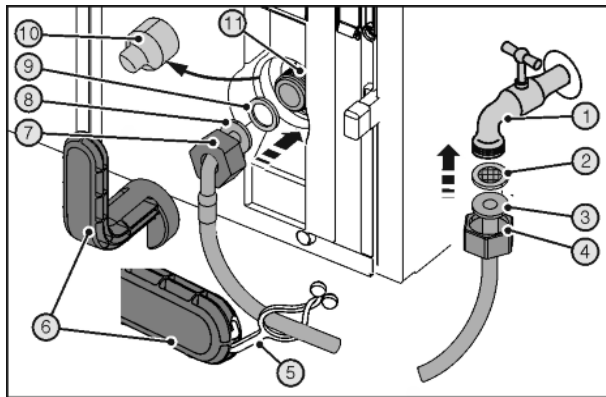

Fig. 44
Cuts from a broken auxiliary tool Fig. 44 (6).
- ▶ Only use an auxiliary tool Fig. 44 (6) at room temperature.
- ▶ Slide the nut Fig. 44 (4) over the straight end of the hose Fig. 44 (3) up to the end and secure.
- ▶ Insert the filter Fig. 44 (2) into the nut Fig. 44 (4).
- ▷ The filter Fig. 44 (2) rests flat on the straight end of the hose Fig. 44 (3) and is easily retained.
- ▶ Connect the nut Fig. 44 (4) to the cut-off valve Fig. 44 (3) with the filter resting on the straight end of the hose Fig. 44 (2).
- ▶ Open the water supply cut-off valve Fig. 44 (1) temporarily to bleed the water pipe and fill it with water. Keep the hose in a bucket.
- ▶ Remove the cover Fig. 44 (10).
- ▶ Slide the nut Fig. 44 (7) over the angled end of the hose Fig. 44 (8) up to the end and secure.
- ▶ Moisten the seal Fig. 44 (9) and push into the nut Fig. 44 (7) on the end of the angled hose Fig. 44 (8).
- ▷ The seal Fig. 44 (9) lies flat on the angled end of the hose Fig. 44 (8) and is easily retained.
- ▶ Connect the nut Fig. 44 (7) to the solenoid Fig. 44 (8) with the seal resting on the Fig. 44 (9) angled end of the hose Fig. 44 (11).
- ▶ Tighten connections with the auxiliary tool Fig. 44 (6) clockwise until the maximum torque is reached and the auxiliary tool Fig. 44 (6) is overwound.
- ▶ Open the water supply cut-off valve Fig. 44 (1) and check the whole water system for leaks.
- ▶ Hook the clip Fig. 44 (5) into the auxiliary tool Fig. 44 (6) and fix it to the stainless steel pipe to store it.